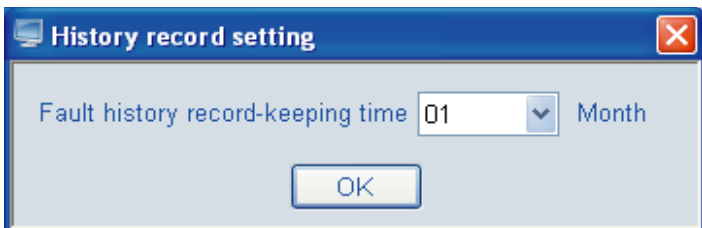

Fig.4-54
②Click “History set” , an interface as Fig. 4-54 displays ———to modify or select the history error saving duration.